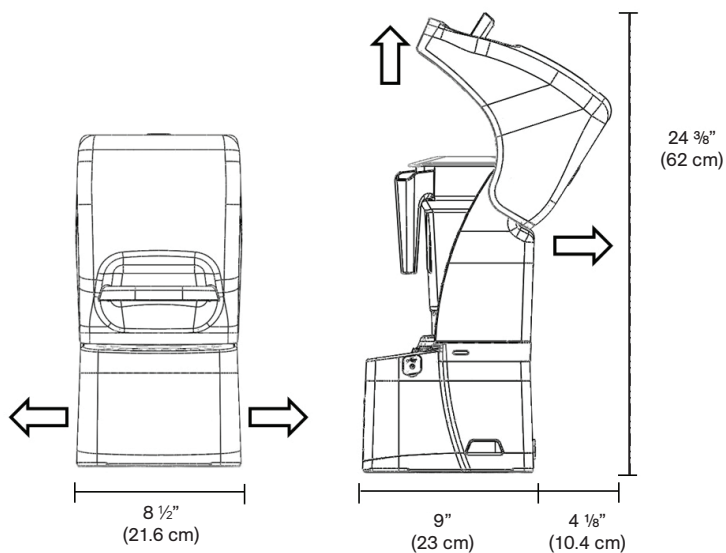

Figure 1. Stealth Dimensions
- Ensure there is enough room above and around the unit to allow for unhampered movement of the sound enclosure (see Figure 1 for measurements).
Note: You may locate your Blendtec Stealth in the same space as your previous Blendtec in-counter blender. Just remember to ensure proper spacing for the sound enclosure (see Figure 1 for measurements).
- Ensure the location meets all dimensional requirements (see Figures 1 and 3).